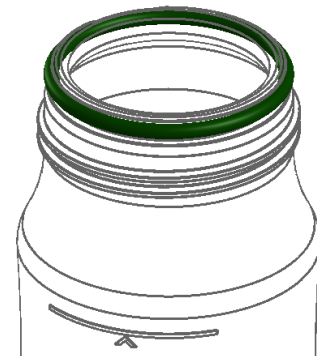

Figure 3.
- *If the O-ring is not correctly attached and the cap is not closed properly, gas insufflation and water feeding may not be possible (see Figure 3).*